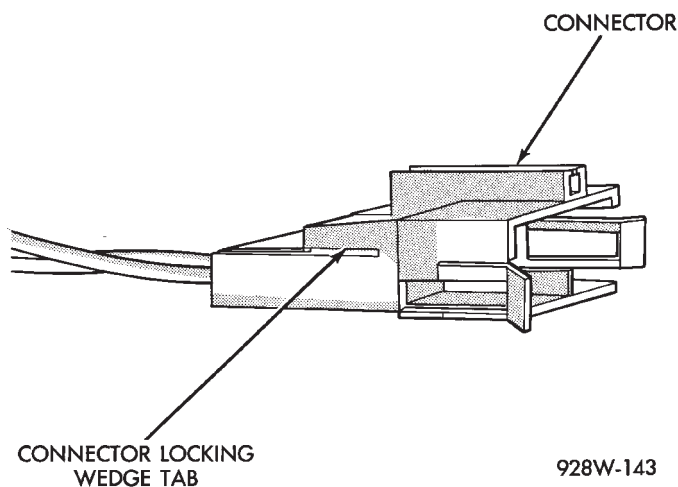

Fig. 16 Connector Locking Wedge
- (1) Disconnect battery.
- (2) Disconnect the connector that is to be repaired from its mating half/component
- (3) Remove the connector locking wedge, if required (Fig. 16)